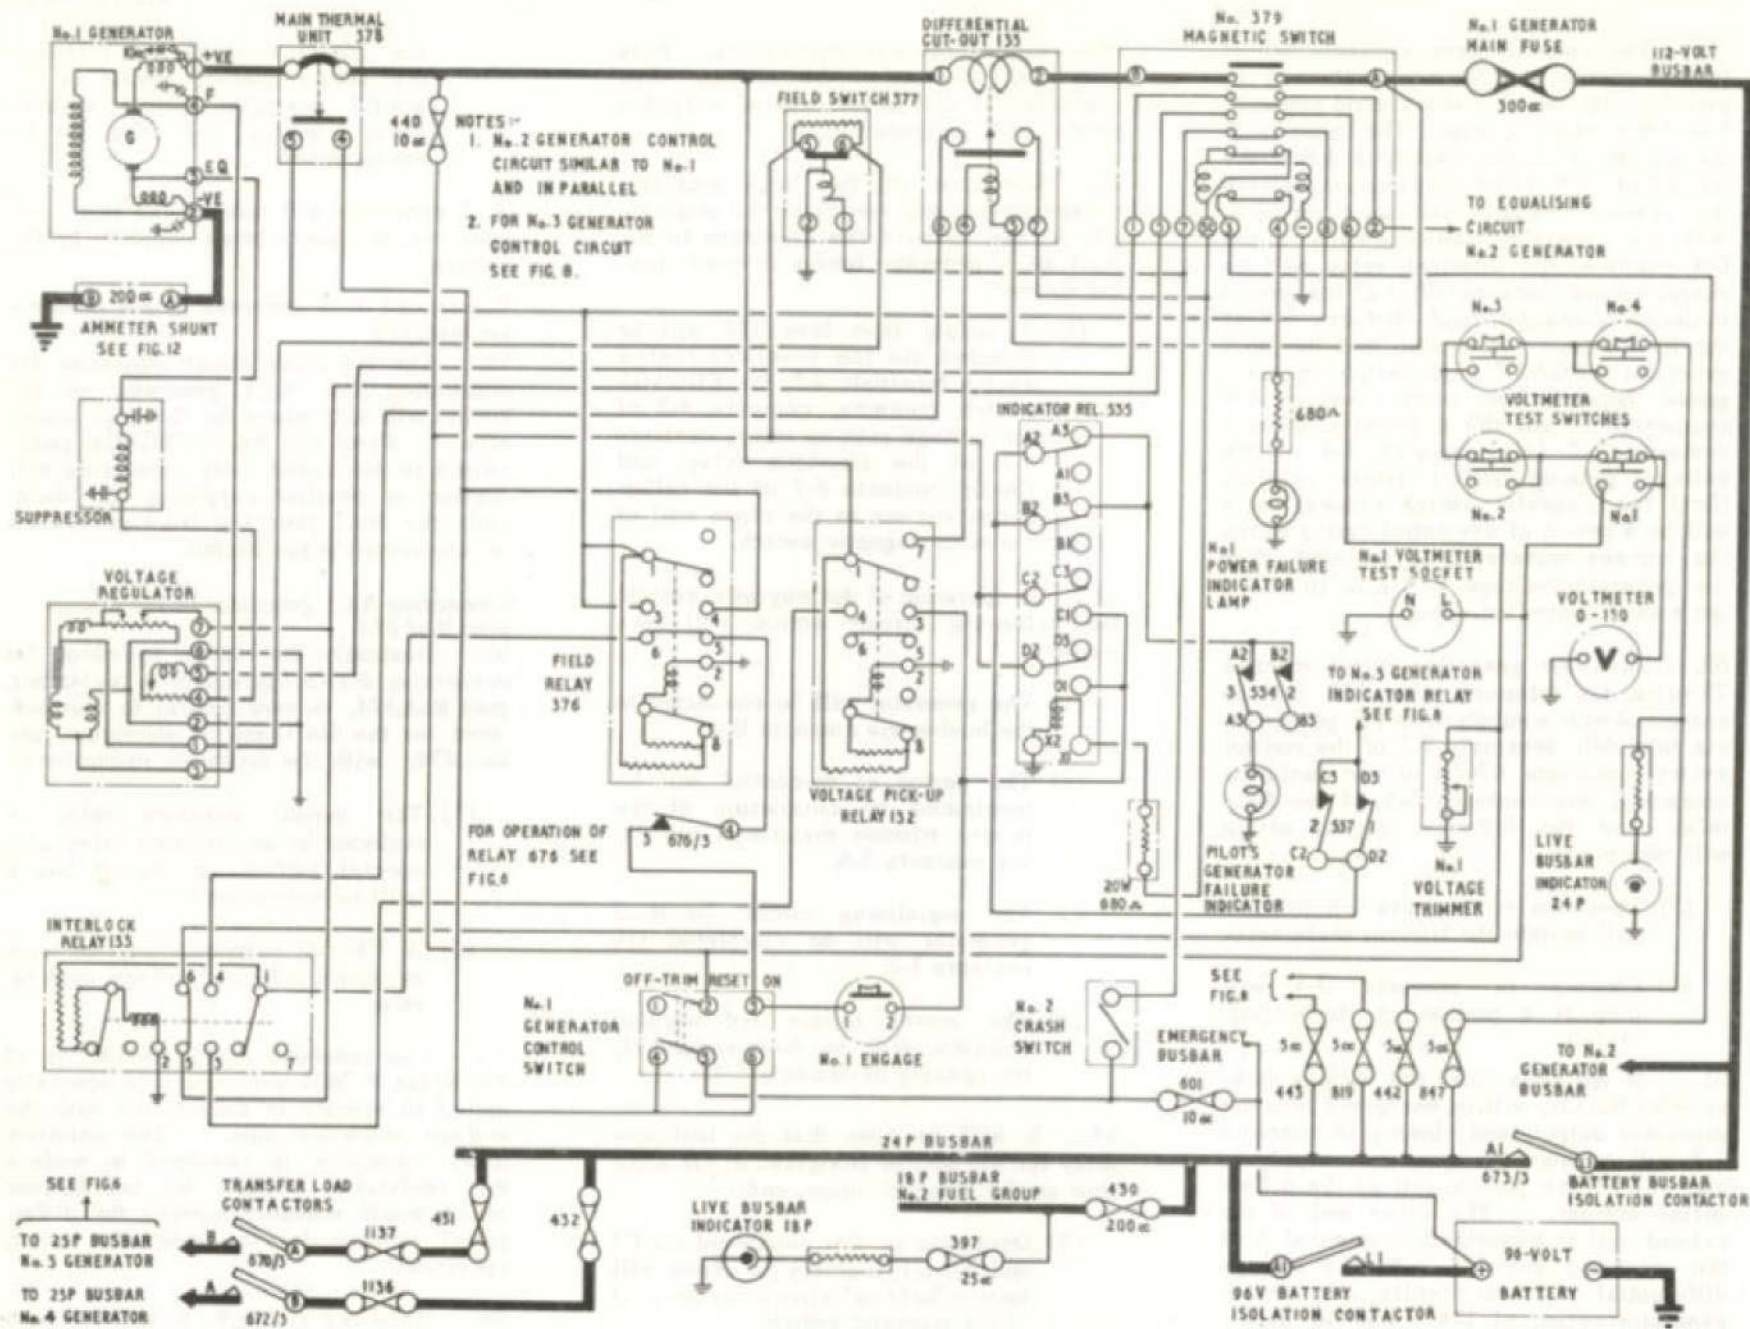

Fig. 7 No. 1 generator control circuit - pre Mod. 874
isolate the No.1 generator interlock circuit, and prevent the generator being connected to the No.1 and 2 generator busbar (fig.7).
47. Referring to fig.7, it will be seen that the No.1 generator output is connected to the busbar via the main contacts of the heavy duty magnetic switch No.379. The coil of the magnetic switch is supplied from the generator output via contacts 4-3 of the interlock relay, contacts 4-3 of the voltage pick-up relay, the control and engage switches, and contacts 6-7 of the differential cut-out. Note that the coil of the interlock relay obtains its supply from the generator output, via the field relay, contacts 676/3 (para.45(4)), and the generator control switch.
74. In the event of No.1 generator becoming overloaded (fig.7), the main thermal unit will close and the following action will result. A supply from the 96-volt battery emergency busbar will be made via fuse 601, contacts 5-6 of the generator control switch and contacts 4-5 of the main thermal unit, to energise the field relay 376. A hold-in circuit is completed across the now closed contacts 3-4 of the field relay, and contacts 5-6
91. Since the No.1 and 2 generators run in parallel and their load, which is connected from the No.1 and 2 generator busbar and the battery busbar 24P, is equally shared, the loss of either generator will result in the full load being borne automatically by the serviceable machine. At the same time, the associated power failure indicator lamp (red warning) will be lit from fuse 847 or 848 as the case may be, across contacts 3-4 of the de-energised magnetic switch (fig.7).